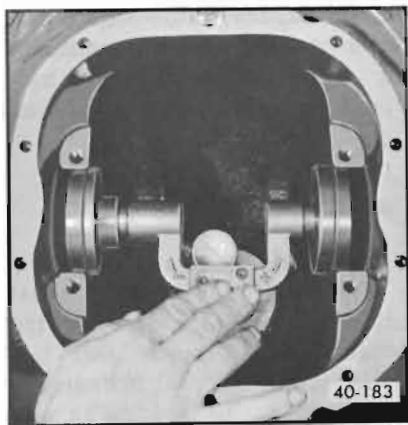

Figure 40-183—Checking Pinion Depth
8. Be certain that differential bearing support bores are free of burrs. Install indicator gage in carrier so that small diameter outer portion of discs rest in differential bearing pedestal support bores. Spring-loaded center of gage must be located in centering hole of gage plate, and ball-tipped contact button of dial indicator must be positioned to bear against outer edge of gage plate top surface. See Figure 40-183.